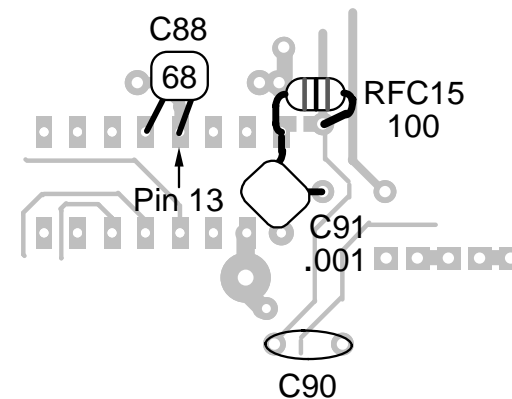

Figure 6-14c
- Solder C91 (.001 μ F, "102") to the two pads shown in Figure 6-14c. Use short leads.
- Locate the crystals used on the RF board: 12.096 MHz (1), 4.9152 MHz for BFO (2) and 4.9136 MHz for crystal filters (7). **Do not mix the BFO and filter crystals, which have different characteristics.**